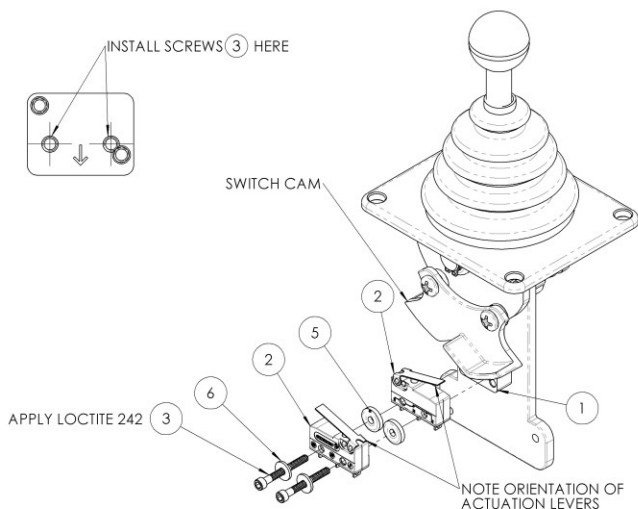

Figure 18: Placement of microswitches in the joystick assembly.
7. Apply Loctite 242(Blue) to the X2 socket head cap screws ④.
8. Install bracket ① with screws ④ onto the joystick support 7165-0002, ensuring the engraved arrow is correctly orientated and the correct holes are used.
9. Refer to Figure 18 for the next several steps. Note the orientation of the lower and upper microswitches ② shown in Figure 18.
10. Arrange the microswitches ②, washers ⑤ ⑥, and screws ③ as shown Figure 18 to make a micro switch subassembly.
Ensure the orientation of the actuation levers on the microswitches are as shown in Figure 18.
11. Place Loctite 242(blue) on the exposed threads of the screws ③.
12. Keeping the microswitch sub-assembly together, place it on top of the mounting bracket ①, keeping everything orientated as shown in Figure 18.
13. Tighten the screws ③ to secure the new microswitches to the joystick.
- a. The actuation levers of microswitches ② are clear of any obstructions through its range of motion. If the switch cam(see Figure 18) grabs or gets stuck on one of the microswitch actuation levers check the switches are orientated correctly.
- b. The microswitch ② lever is depressed enough to actuate the switch contacts when the joystick is pushed to its end of travel. This can be done by checking for continuity across the Normally Open(N.O) terminal 4 and the Common(C.O)